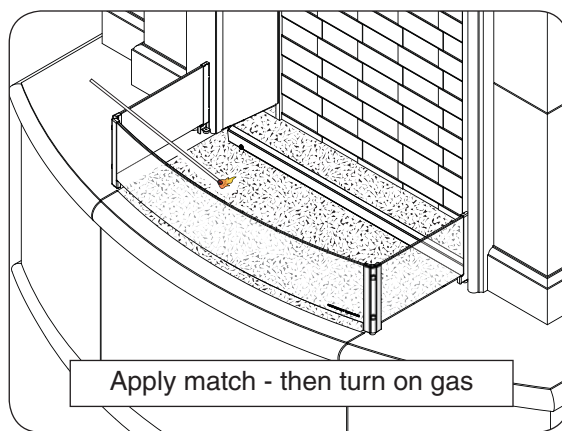

Fig. 31-1 Lighting burner
3. Lay a lighted match on the surface of the decorative media near the burner (**do not hold the match in your hand**) (Fig. 31-1).